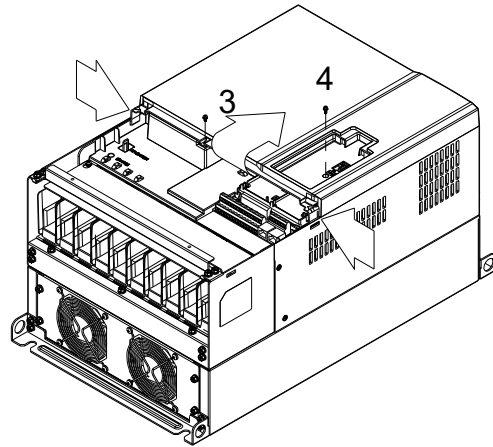

Figure 2
2. (Figure 2) Loosen screw 3 & 4, press the tab on the right and the left to remove the cover. Screw 3, 4 Torque: 6~8 kg-cm / [5.2~6.9 lb-in.] / [0.6~0.8 Nm]